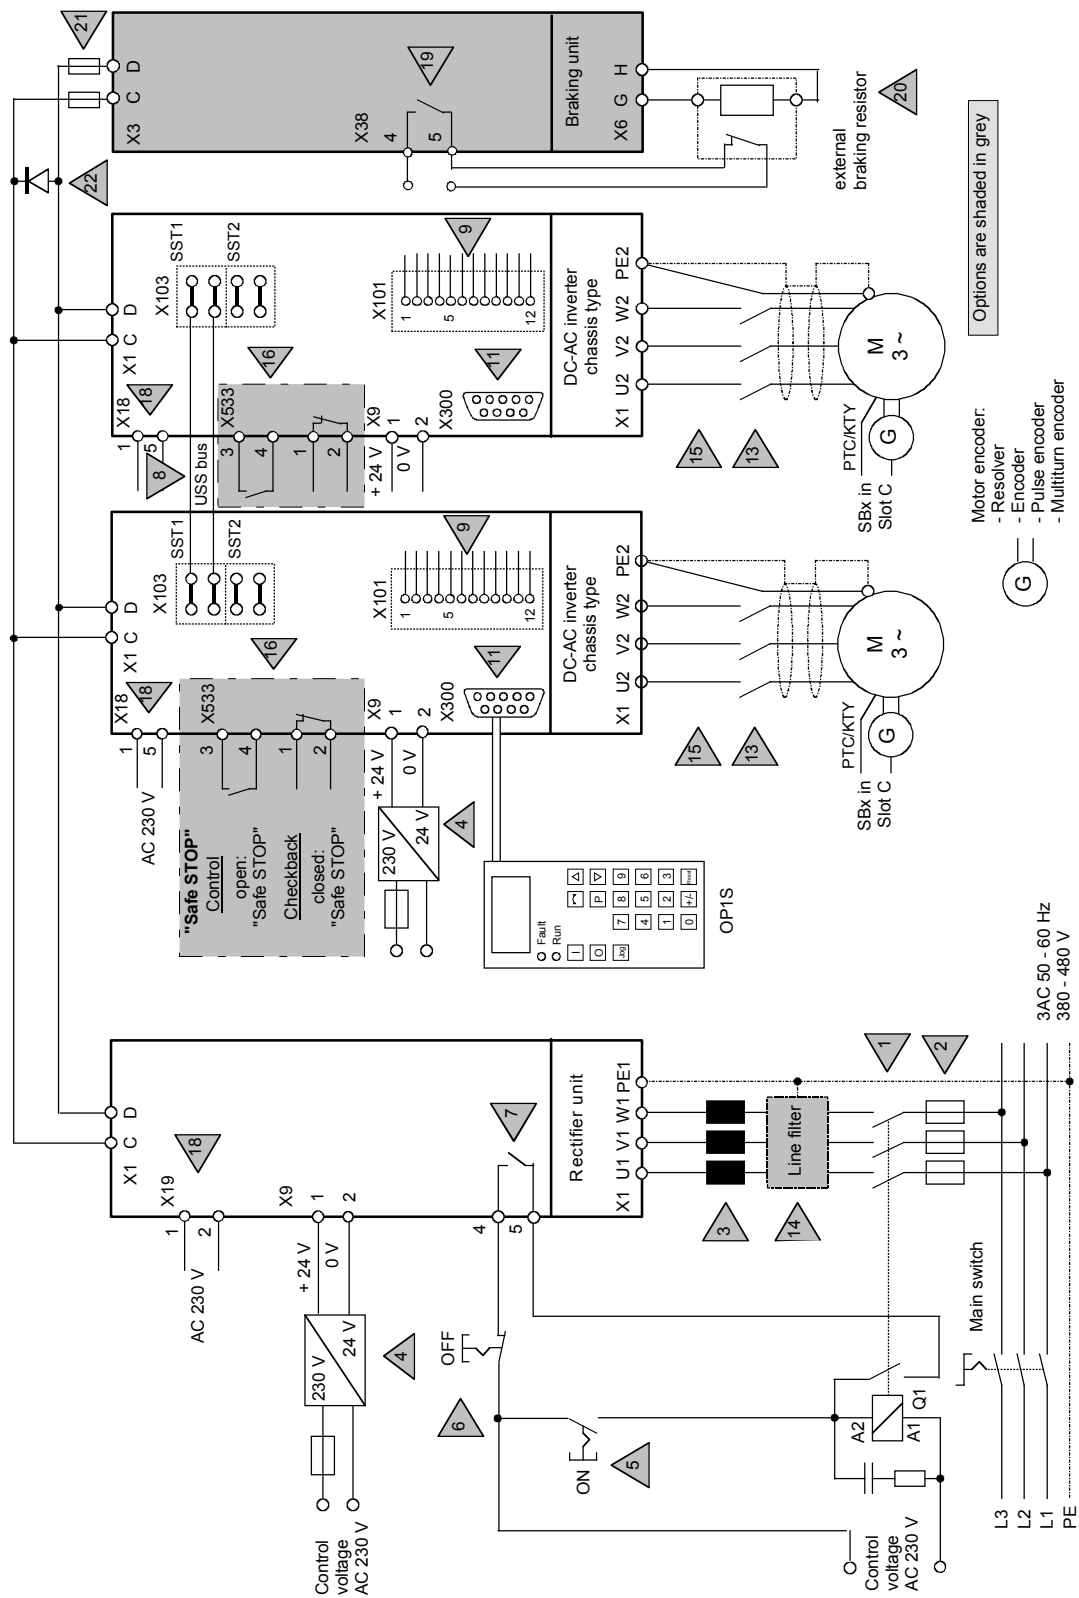

Fig. 2-6 Configuration example: multi-axis drive with chassis-type units
- Multi-axis drive with chassis-type units (see Fig. 2-6 on page 2-11)